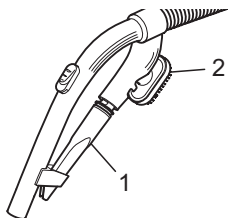

Fig.5
■ The crevice nozzle and the 2-in-1 combi-nozzle are included as **accessories** in the scope of delivery. They can be secured to the accessories mount (Fig. 5) when not in use.
- **Crevice nozzle (Fig. 5/1)**
- **2-in-1 combi-nozzle (Fig. 5/2) to be used as:**